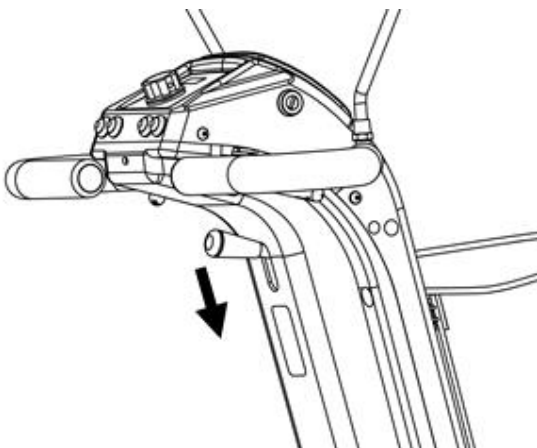

Figure 5.8
5.13.2 While holding the adjustment lever, you can raise or lower the steering column to the desired position. (See Figure 5.8).